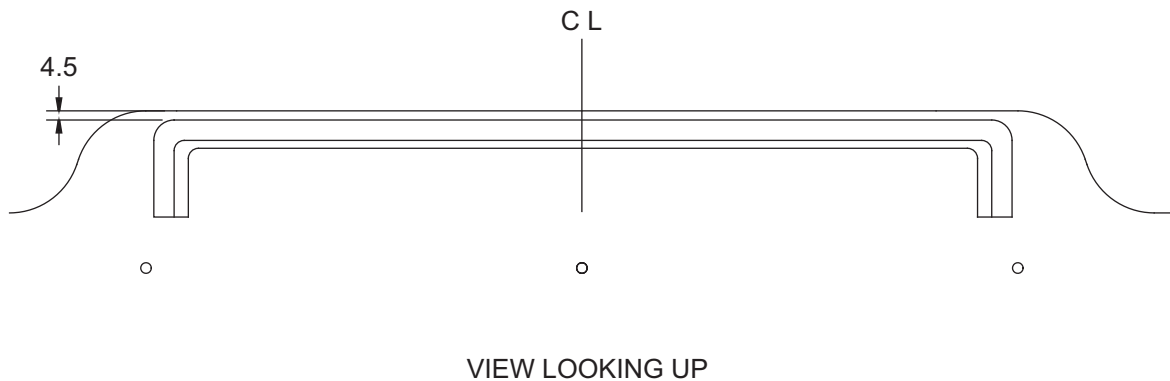

Figure 1 - Installation of Bracket to the Instrument Panel Cover
- 10.13 Install bracket onto instrument panel cover (See Figure 1).